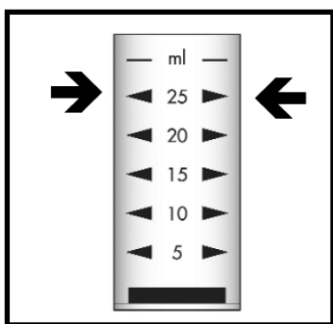

Figure 1.
1. Fill the sample cup to the 25 mL mark with the sample (fig 1).